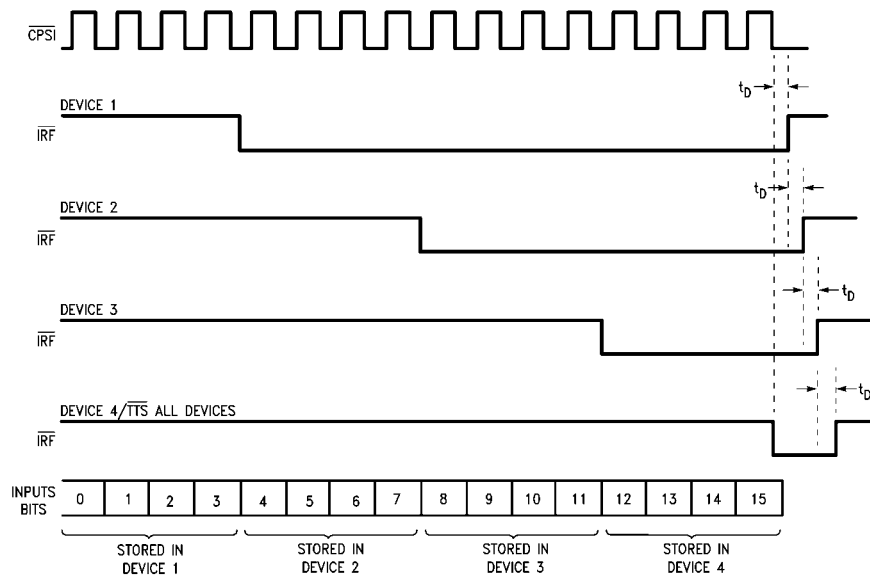
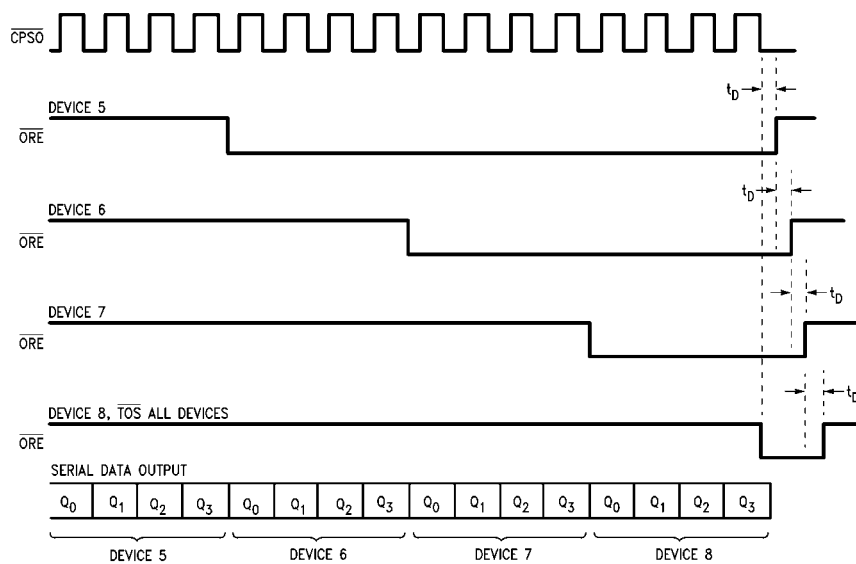
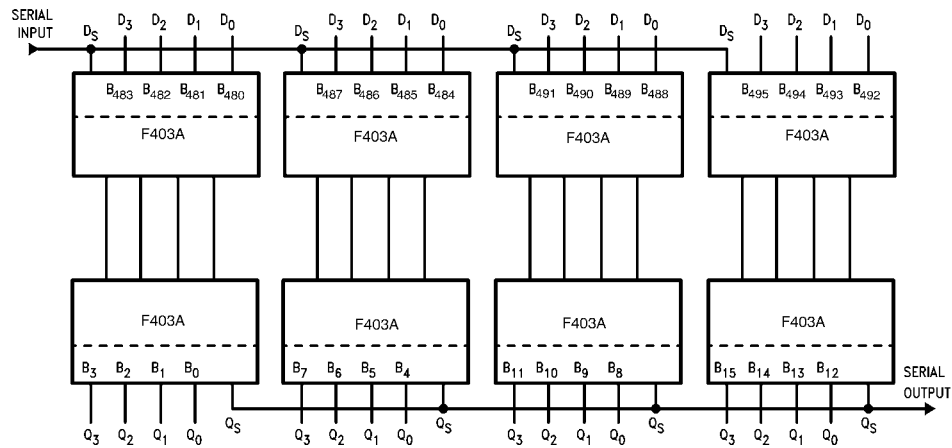

FIGURE 7. Serial Data Entry for Array of Figure 6
FIGURE 8. Serial Data Extraction for Array of Figure 6
FIGURE 9. Final Position of a 496-Bit Serial Input
**Horizontal and Vertical Expansion—** The 74F403A can be expanded in both the horizontal and vertical directions without any external parts and without sacrificing any of its FIFO's flexibility for serial/parallel input and output. The interconnections necessary to form a 31-word by 16-bit FIFO are shown in Figure 6. Using the same technique, any FIFO of  $(15m + 1)$ -words by  $(4n)$ -bits can be constructed, where  $m$  is the number of devices in a column and  $n$  is the number of devices in a row. Figure 7 and Figure 8 show the timing diagrams for serial data entry and extraction for the 31-word by 16-bit FIFO shown in Figure 6. The final position of data after serial insertion of 496 bits into the FIFO array of Figure 6 is shown in Figure 9.